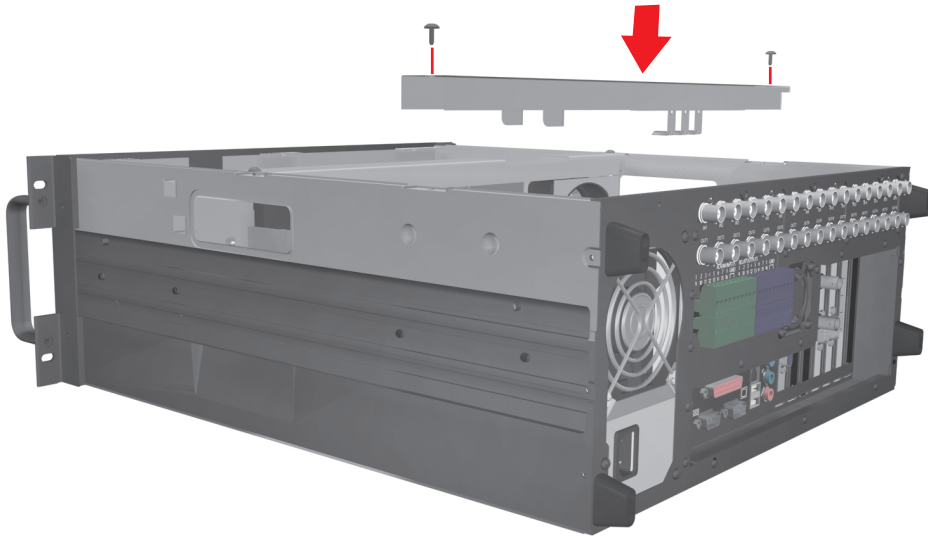

Figure 16. Replacing Front Cross-Brace
1. Replace the rear cross-brace and secure it with the flat-head screws you set aside earlier. Refer to Figure 16.